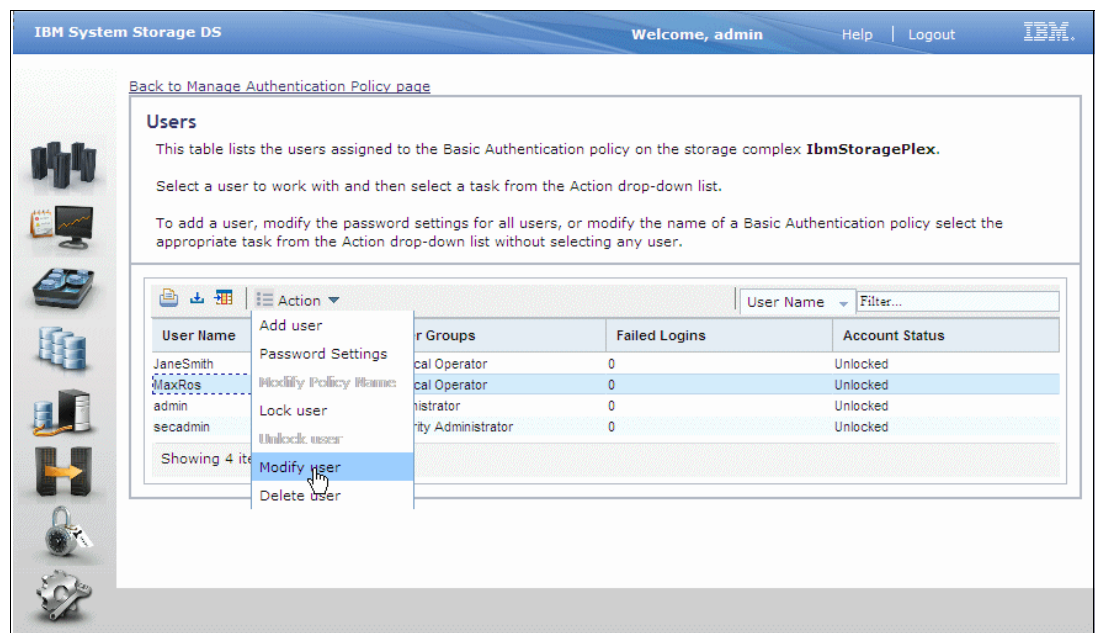

Figure 9-13 Selecting Modify User
- The next window shows you the users defined on the HMC. You can choose to add a new user (click **Select action** → **Add user**) or modify the properties of an existing user as shown in Figure 9-13.